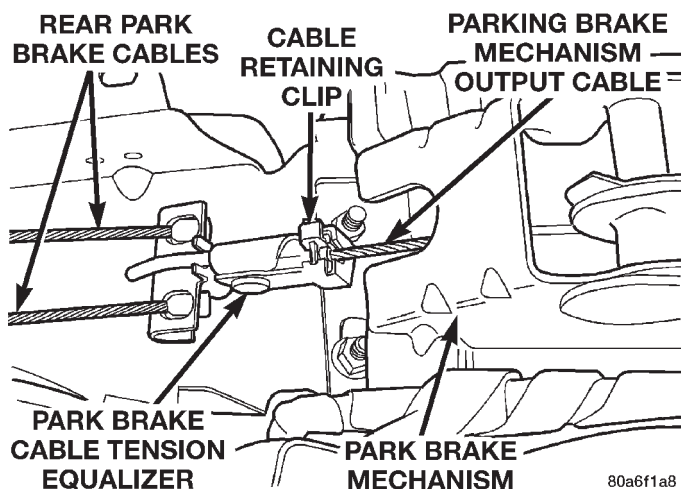

Fig. 193 Cable Retainer Installed On Tension Equalizer
(12) Install a **new** park brake lever output cable to tension equalizer retaining clip (Fig. 193) on tension equalizer. The cable retainer (Fig. 193) must be closed and securely latched.